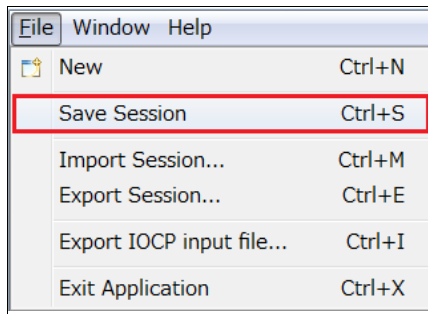

Figure 4-50 Save session
3. Select **File** → **Save Session** (see Figure 4-50).